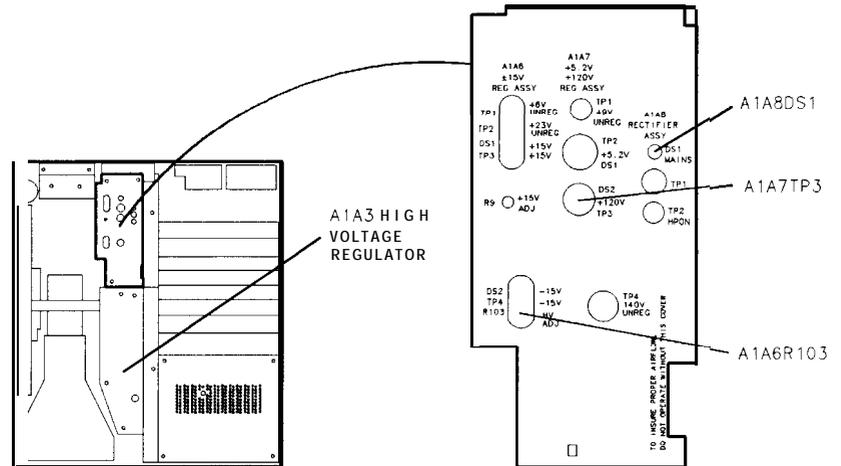

Figure 3-13. Location of High Voltage Adjustments
3. Set the DVM to the 100V range, and connect the DVM to A1A7TP3 (+ 120V) without the high-voltage probe. See Figure 3-13.
The MAINS power-on indicator A1A8DS1 (red LED) should be completely off before proceeding with this procedure. See Figure 3-13 The indicator will remain lit for several seconds after the ac line cord has been removed, and will go out slowly (the light becomes dimmer until it is completely out).
15. Adjust A1A6R103 HV ADJ for a DVM indication equal to the calibration factor (calculated in step 8) times the voltage labeled on the top of the A1A3A1 High-Voltage Assembly (noted in step 11). See Figure 3-13 for the location of the adjustment.